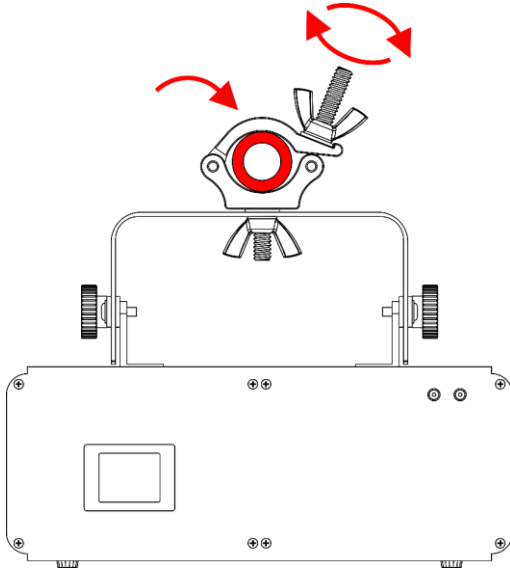
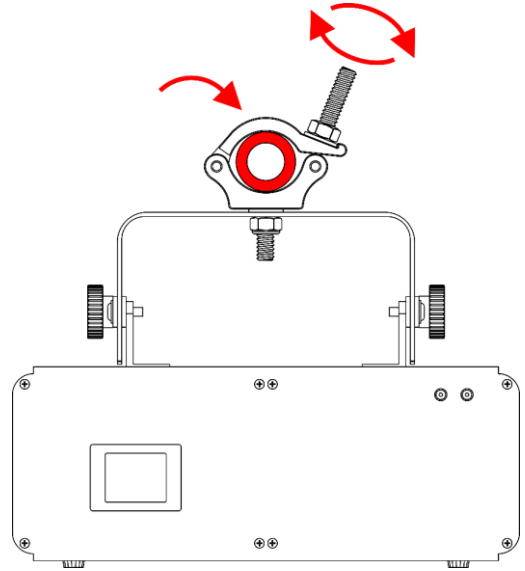

Fig. 07
Fig. 08
07) Put the device, with the installed load, around a tube (Ø 48–51 mm) and close the **lock (11)**. See Fig. 07 or Fig. 08.
08) Put the **hex nut (01)** (fixed installation, Fig. 08) or the **wing nut (02)** (temporary installation, Fig. 07) on the **hex bolt (03)** and turn it clockwise, to tighten the device around the tube.